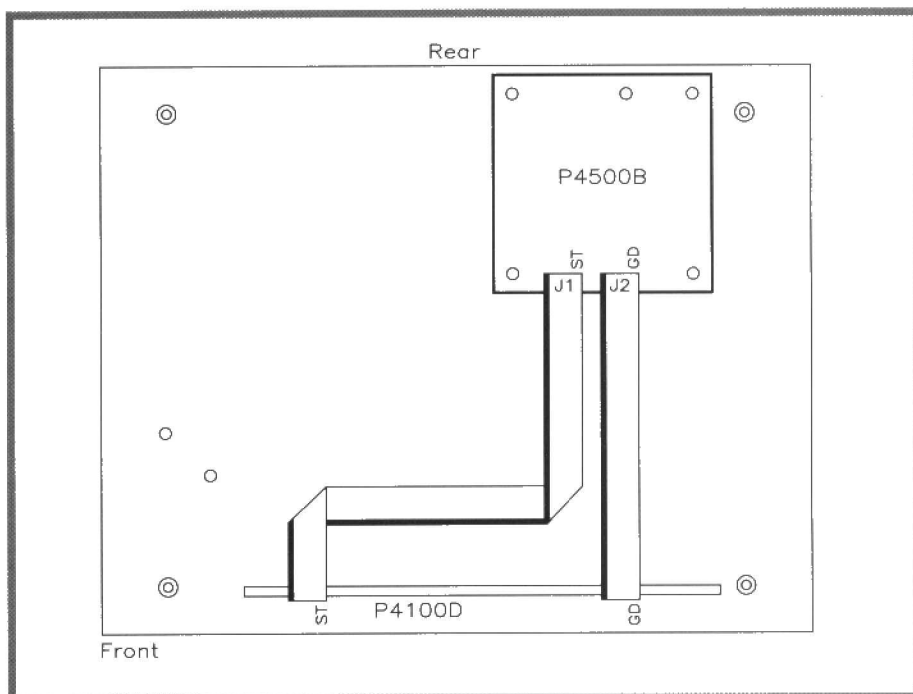

Figure 8. Ribbon cable interconnection details.
7. Solder the two ribbon cables to the Tuner/PSU PCB. The 'reference' wire (having a black stripe down its side) should be located as shown in Figure 8.
10. Referring to Figure 8 for details on how to 'twist' them, solder the ribbon cables to the Display PCB, ensuring that the connections on the Tuner/PSU PCB go to the correct ones on the Display PCB.